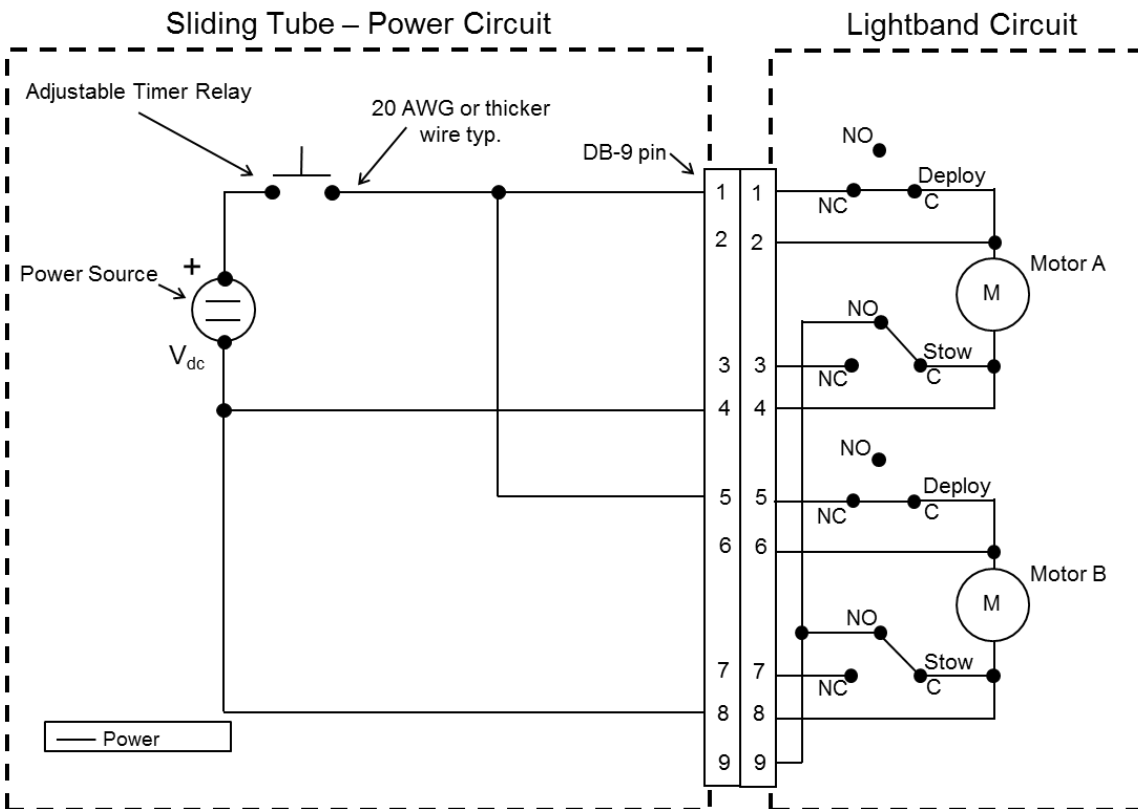

Figure 39: Sliding Tube Circuit
11.1.9	Remove the 'Sliding Tube – Test Circuit' and connect the Lightband to the 'Sliding Tube – Power Circuit' per Figure 39. Do not apply power to the Lightband.